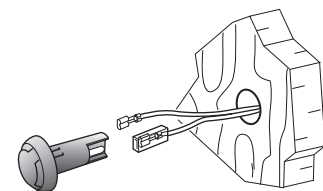

Fig. 20
- ▶ Drill a 10 mm diameter (Fig. 20) hole.